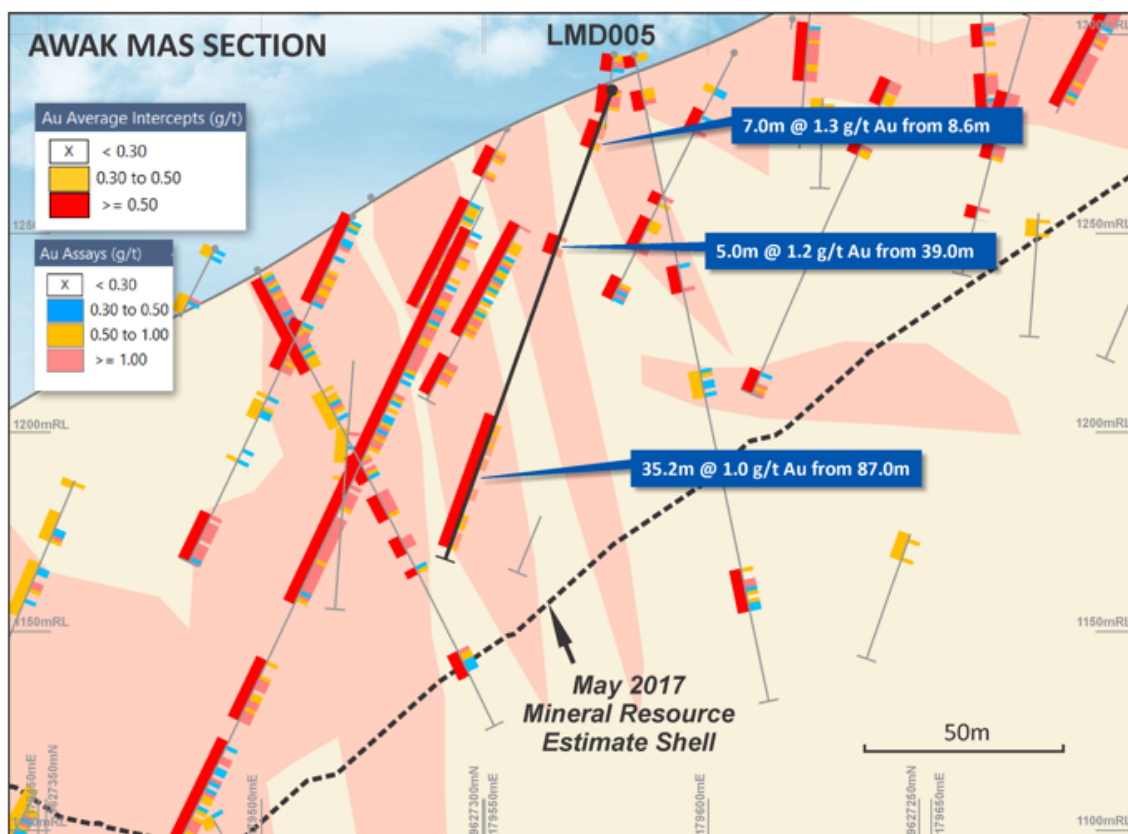

Figure 4: Cross-section of Awak Mas deposit showing mineralised intersections > 0.3 g/t Au in LMD005.
- Hole LMD005 drilled within the Lematik domain (Figure 4) returned the following significant intersections; 7.0 m at 1.3 g/t Au from 8.6 m, 5 m at 1.2 g/t Au from 39.0 m, 35.2 m at 1.0 g/t Au from 87.0 m.